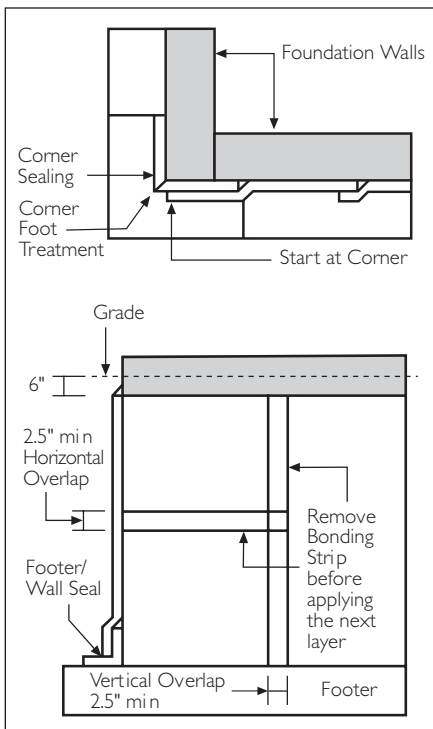

Figure 5 – Vertical Lap Installation
A. Vertical Pattern Installation (Figure 5)